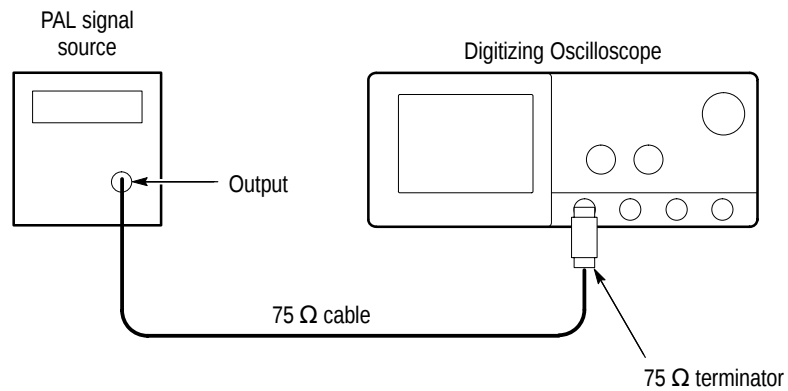

Figure 4-35: Line count accuracy test hookup
- Connect a composite output signal from the rear of the PAL signal source (labeled **COMPST** on the TSG 121) to the CH1 input through a 75  $\Omega$  cable and a 75  $\Omega$  terminator. See Figure 4-35.